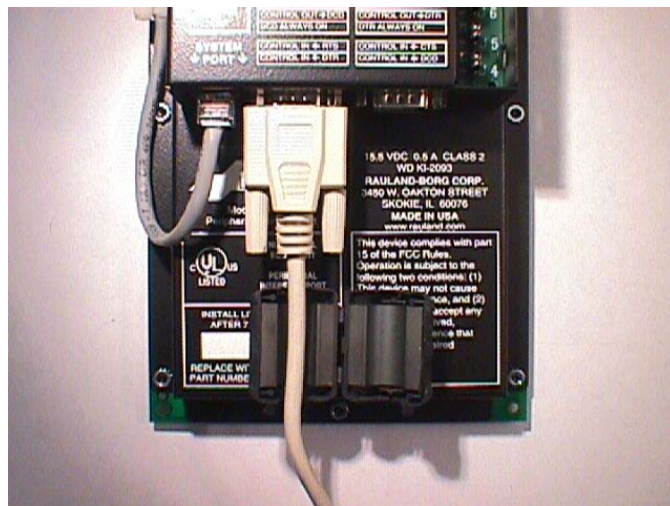

Figure 332: Ferrite bead located near connector
- 2 Keeping the ferrite bead open, place it underneath the cable as close to the R4KSPA as possible. (Figure 332)